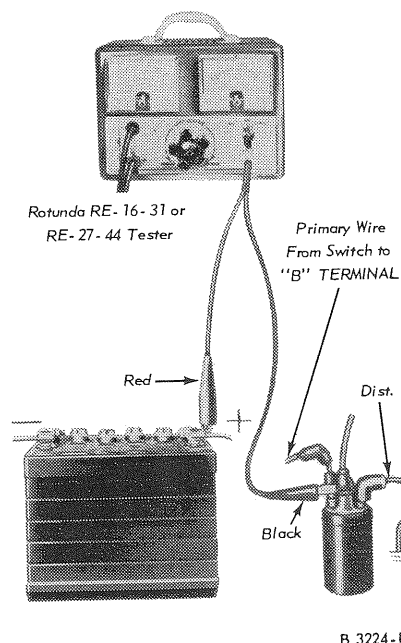

FIG. 4 Battery-to-Coil and Starting Ignition Circuit Test
1. Connect the voltmeter leads as shown in Figure 4.